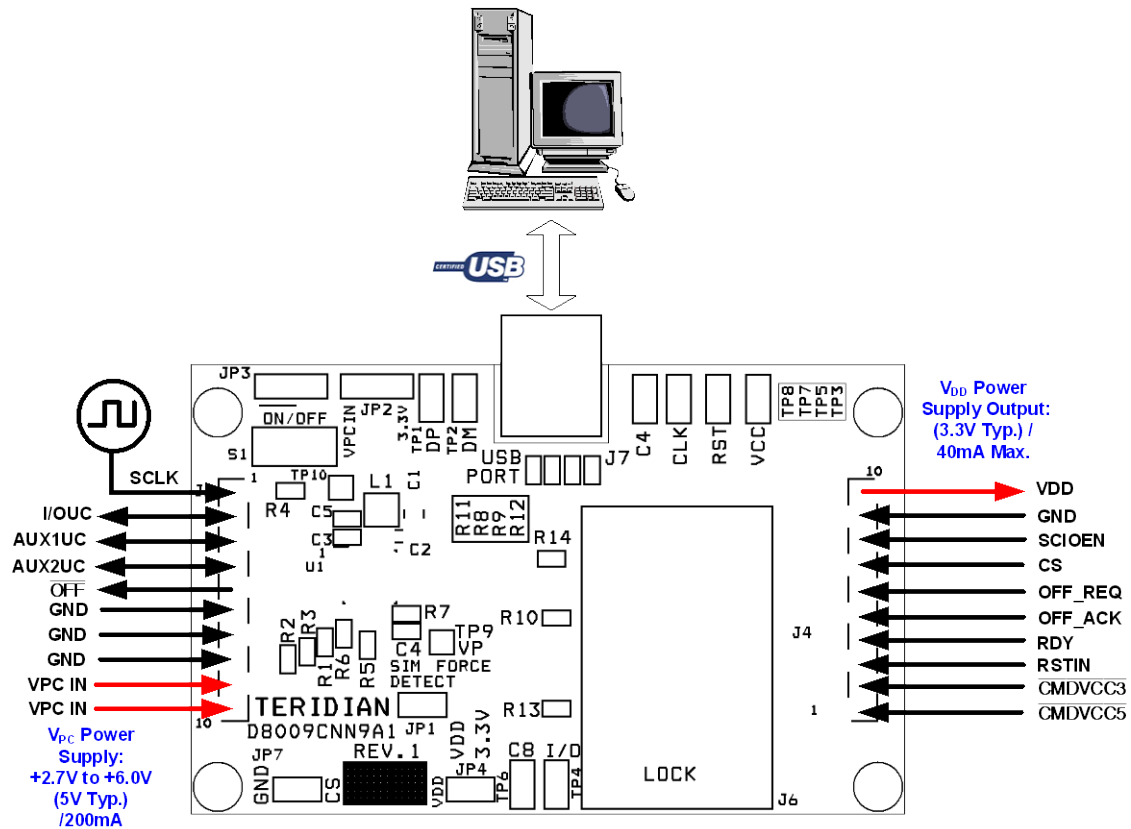
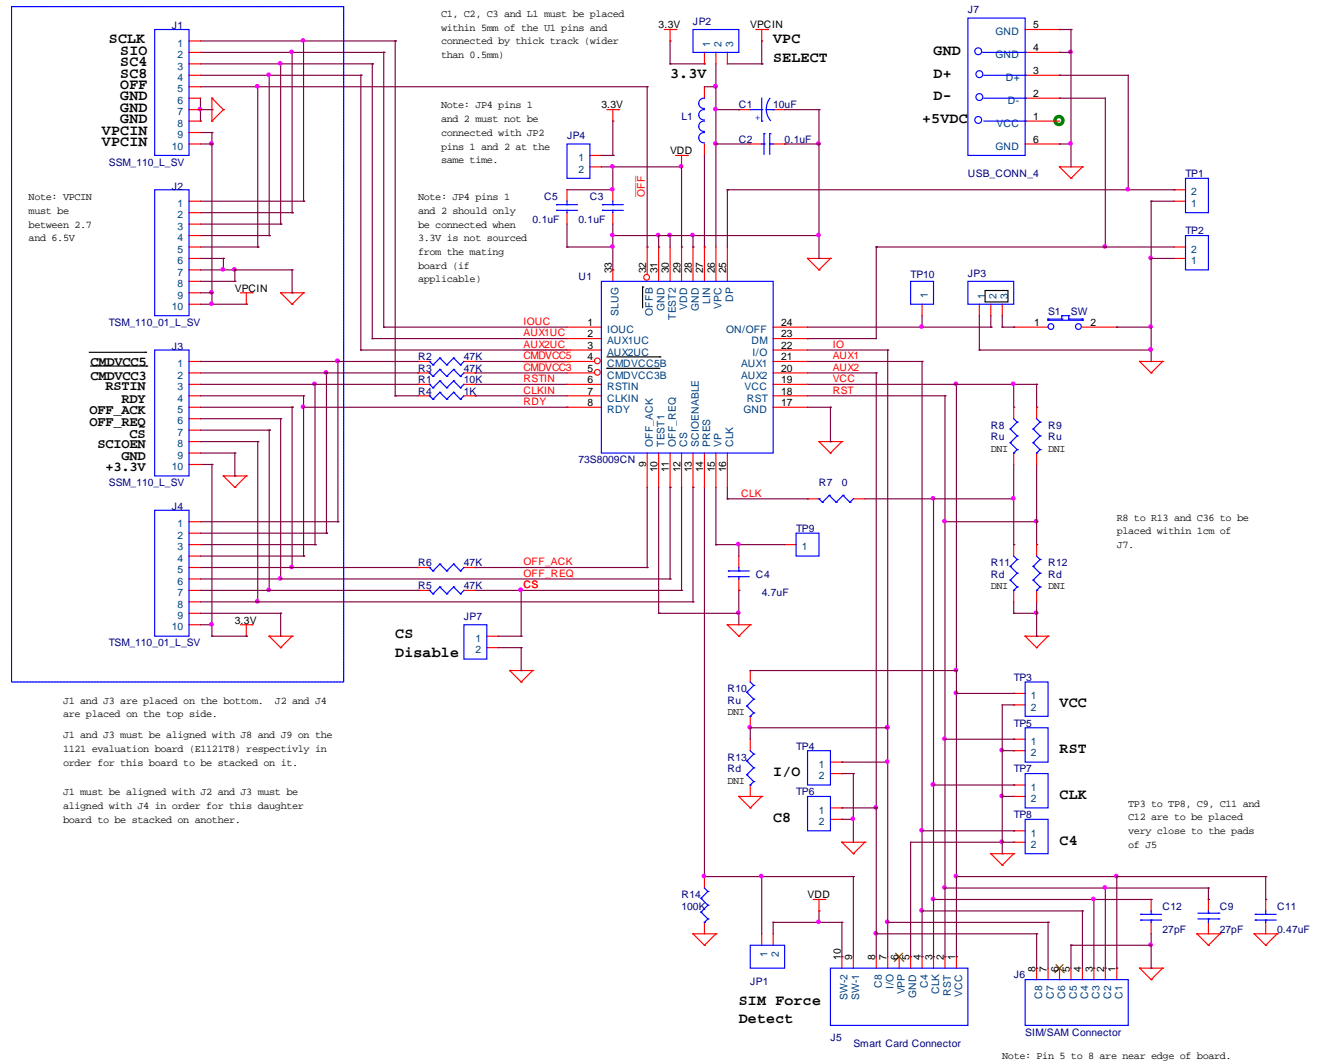

Figure 2: 73S8009CN Demo Board External Connectors
Figure 4: 73S8009CN Electrical Schematic
This section describes the 73S8009CN Demo Board external connectors. All the digital signals and power supply connections are made through 10-pin header connectors labeled J2 and J4 in Figure 2.
- Control signals to the device can be connected through J2 and J4. See Figure 2 and Figure 4.